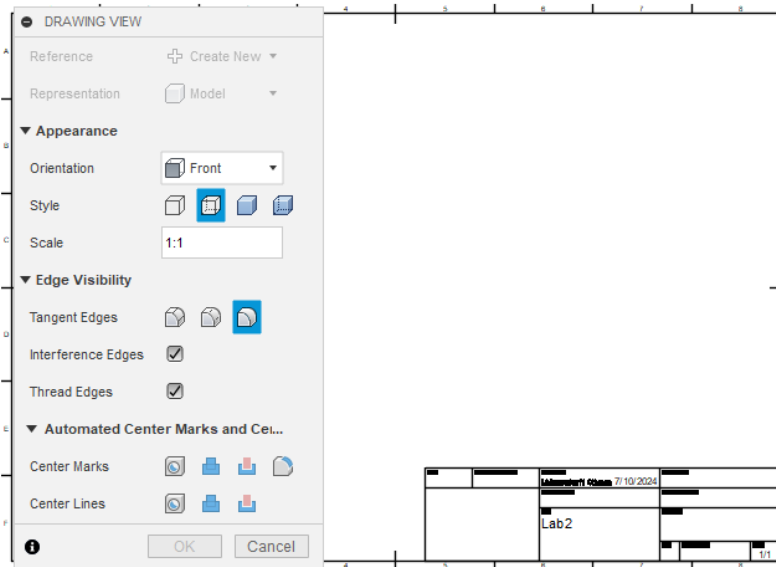

Fig. 16: 3D Drawing Setting.
22. A drawing platform will appear as shown in Fig.16 and set accordingly and click “OK”.